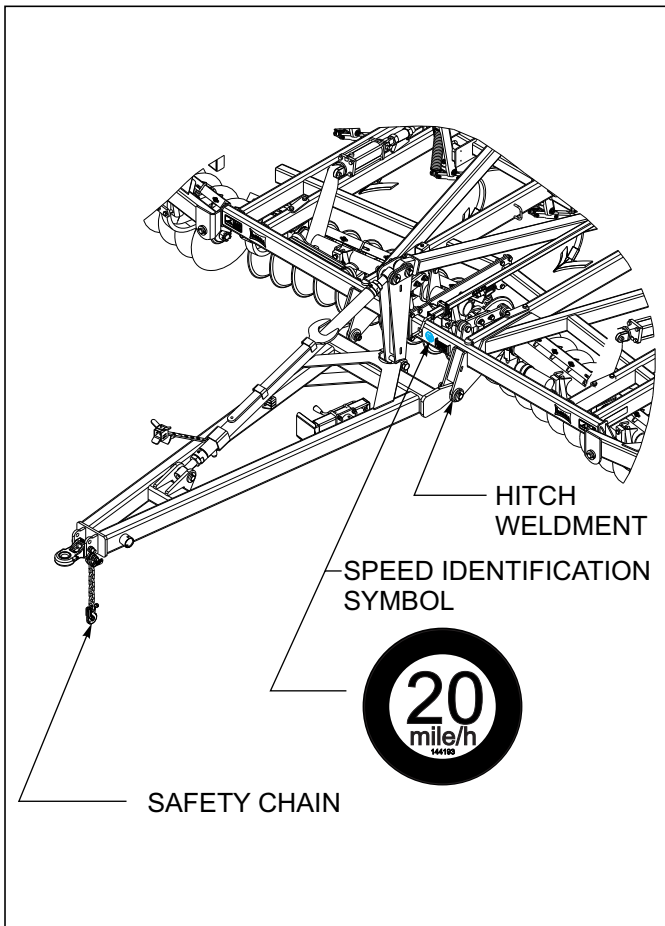

Figure 4-7: Hitch, Speed Identification Symbol, and Safety Chain
2. The Finisholl should be transported only by tractor required for field operation. The implement weight should not exceed more than 1.5 times the tractor weight. Unless noted on the implement, maximum transport speed is 20 mph for the implement and is designated on the speed identification symbol (SIS) located on the front of the implement (**See Figure 4-7.**)